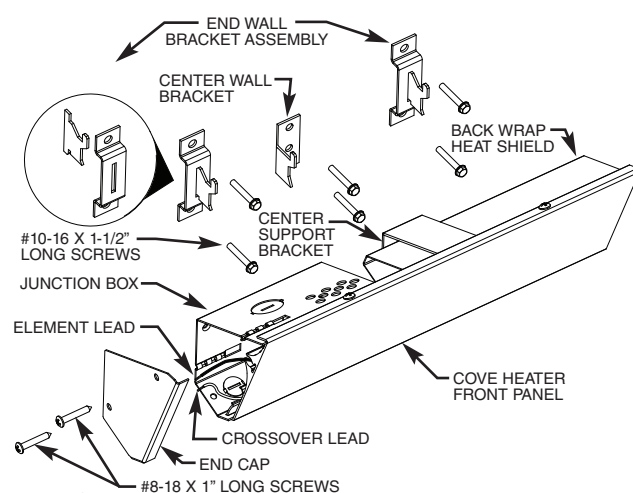

Figure 3
1. Select correct mounting distance from the ceiling material per Figure 1. Using Table 1, determine the center to center distance of the end wall brackets for the particular model (wattage) to be mounted. Divide this value by 2 to determine the approximate location to mount the center wall bracket. Mark these locations on the chosen wall. Locate a stud nearest the center wall bracket mark. Use this stud for the bracket location. (Disregard original mark mentioned above) Assemble end wall brackets as shown in Figure 3.
7. Attach end caps (found in parts bag) as shown in Figure 3.